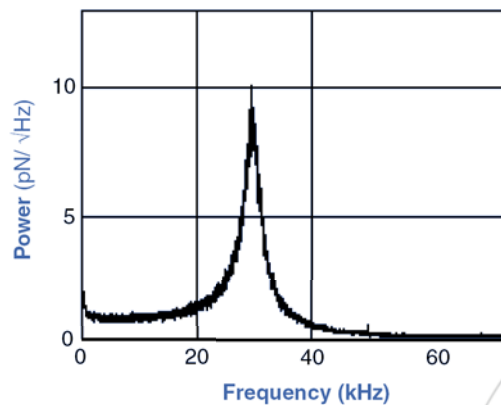

Figure 3. FFT of cantilever oscillation
2. Modulation Frequency The most straightforward method to determine the natural resonance frequency of a cantilever is to use the built-in FFT routine in the SPM 32 (or XPMPPro) program. This is accessed through the Acquire/Spectroscopy/Noise Power menu item. The FFT of the input signal will be computed, and a graph similar to Figure 3 will be produced. Note this method can only be used if the resonance of the cantilever is below 74 kHz (125 kHz if the DT2821 250 kHz upgrade option is installed or XPMPPro is used). Another method is to monitor the amplitude of the cantilever vibration with one of the Aux channels while scanning the driving frequency. When the cantilever is excited with a frequency near its resonance, the amplitude will start to increase and this will appear as an increased input signal on the Aux 1 channel. A typical free cantilever (Park sharpened, $k = 0.1$ N/m) noise spectrum is shown in Figure 3. A “stiff” Park ultralever with $k = 2.2$ N/m typically exhibits a resonance at 82 kHz.